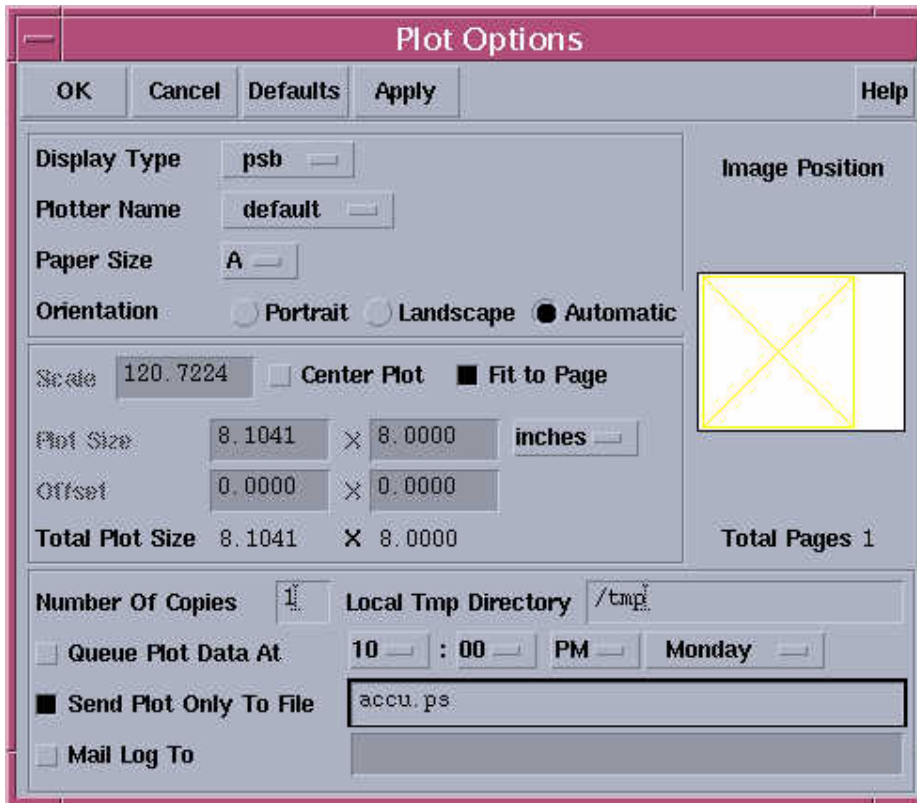

Figure 10. Plot Options Window.
- Select **Plot Options...**, and fill out the window that opens according to Figure 10.